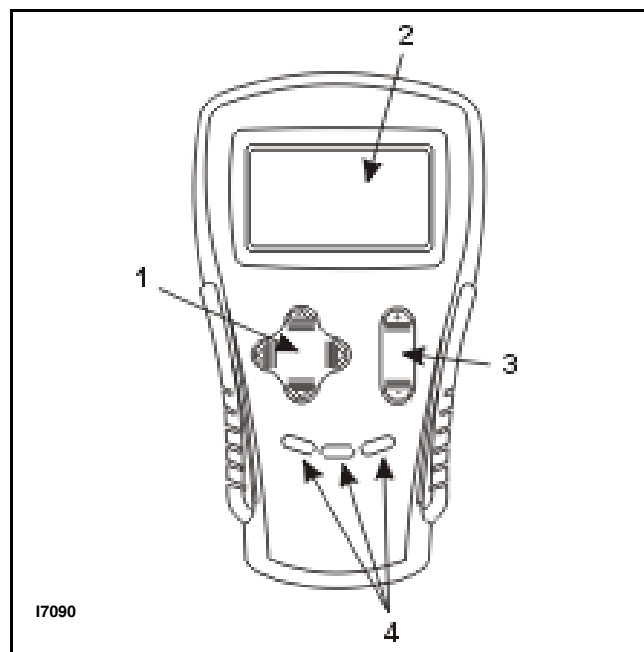

Figure 4-2. Hand Held Programmer
2. Turn the lift truck key switch to the ON position. The programmer should "power up" with an initial display (2, Figure 4-2), and the controllers Status LED should begin steadily blinking a single flash. If neither happens, check for continuity in the key switch circuit and controller ground.
3. Put the controller into the diagnostic mode by pressing the "Menu Navigation Key" (1, Figure 4-2). Using the Navigation key, select the Faults menu. Display the Faults menu by pressing the Right side of the Navigation key. Press the Right side of the Navigation key again to display the list of System Faults. The display should indicate "No Known Faults."
To see the present status of the unit, use the Menu Navigation Key (1, Figure 4-2) to select: